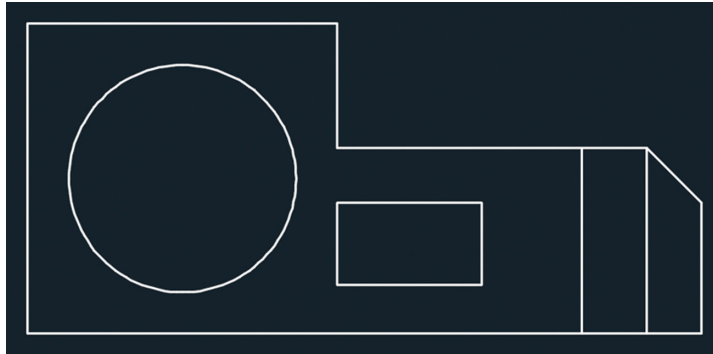

FIGURE 3.17 Completed mechanical part
8. Type @1',-6 (or @280,-160 for metric) and press Enter. The rectangle and drawing are complete (see Figure 3.17).